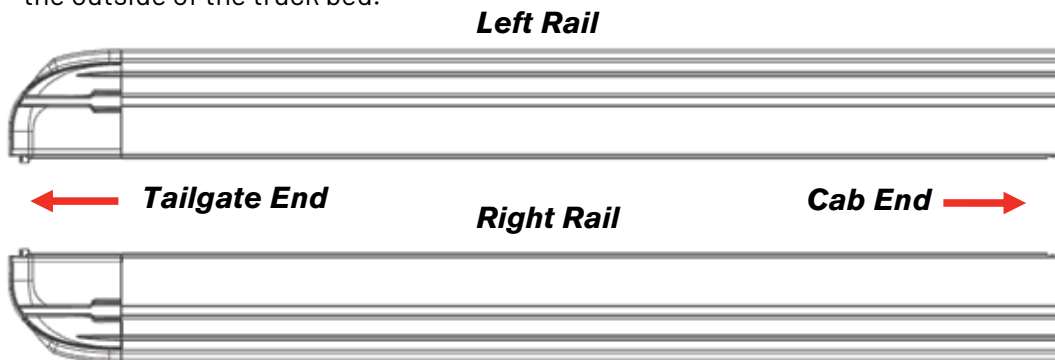

FIG. 4A
- Next identify the left and right side rails (FIG 4A). The rail flange and foam towards the outside of the truck bed.